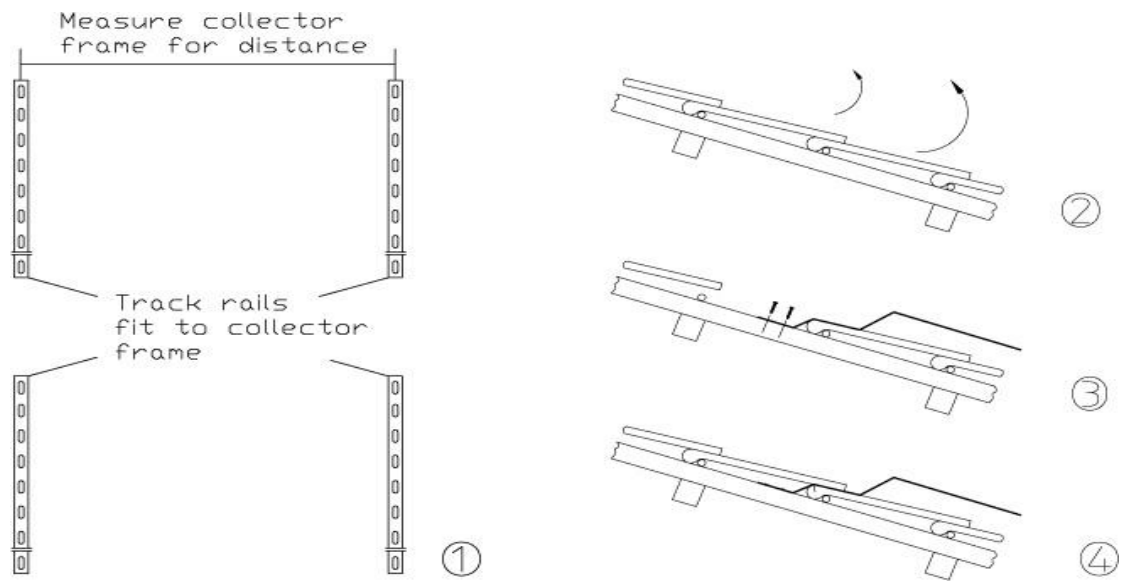

Fig 3.9
- Bend mounting straps according to the height of tiles and the location of oval fixing holes in the side rails of the collector frame. Replace the roof tiles. Fix solar collector on mounting straps. (Fig 3.9~3.12).